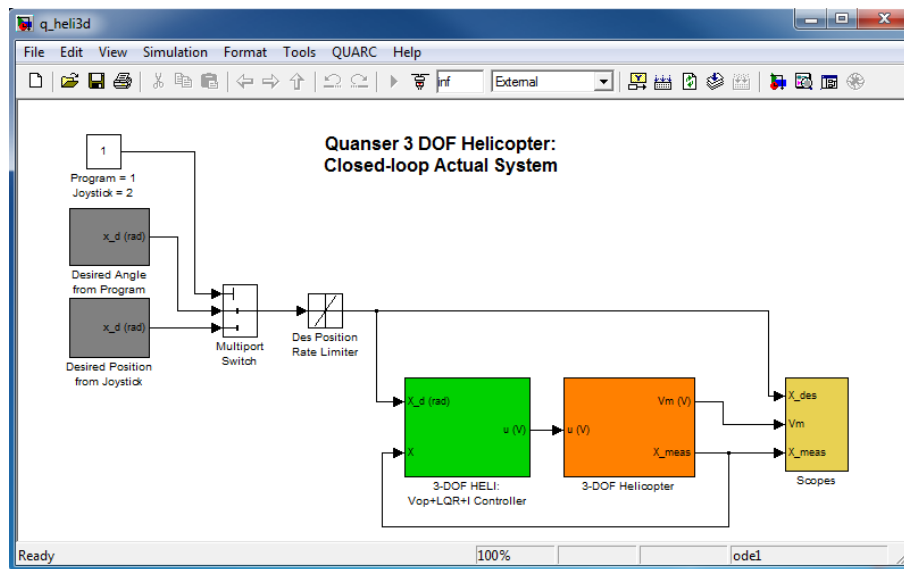

Figure 5.2: Simulink model q_heli3d implements the LQR controller on actual 3 DOF Helicopter system.
2. Open Simulink model *q_heli3d.mdl* shown in Figure 5.2 that implements a sample LQR controller. The model runs your actual 3 DOF Helicopter plant by directly interfacing with your hardware through the QUARC blocks, described in [1].
11. In the *q_heli3d* Simulink diagram, make sure the *Program/Joystick* block shown in Figure 5.2 is set to 1 in order to generate the desired angle from Simulink.
18. Alternatively, the desired angle can be generated using the joystick described in [2]. To use the joystick, set the *Program/Joystick* switch shown in Figure 5.2 to 2. The rate at which the desired angle increases or decreases given a joystick position can be changed using the `K_JOYSTICK_X` and `K_JOYSTICK_Y` variables that are set in the `setup_lab_heli_3d.m` script file.
1. Open Simulink model `q_heli3d_w_ads.mdl` shown in Figure 5.5 that implements a sample LQR controller on the 3 DOF Helicopter with ADS plant. The model runs your actual 3 DOF Helicopter with the ADS plant by directly interfacing with your hardware through the QUARC blocks, as discussed in [1]. The 3 DOF Helicopter System subsystem is basically the Simulink model described in Figure 5.2. The helicopter controller is not engaged until the Active Disturbance is calibrated (i.e. 0 V is fed to the helicopter motor until the ADS is homed).